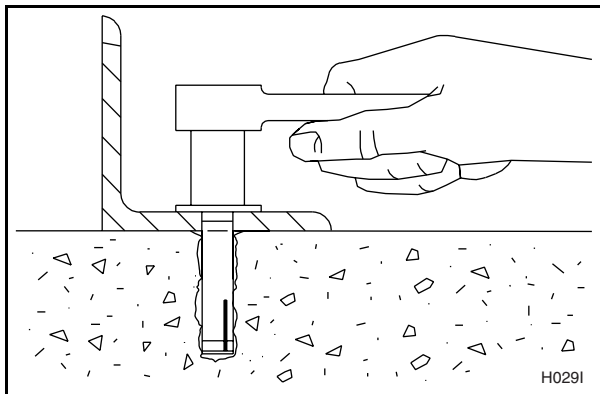

Figure 19
8. Secure the machine to the floor, using the bolts furnished with the anchors. Tighten the locknuts by even increments—one after the other—until all are tightened evenly and the machine is fastened securely to the floor. See Figure 19.